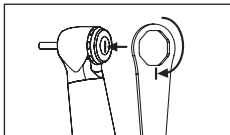

Fig. 34
- ⑧ Tighten it firmly with the head cap wrench (Fig. 34).
- ⑨ Clean and sterilize the handpiece after replacing the cartridge.